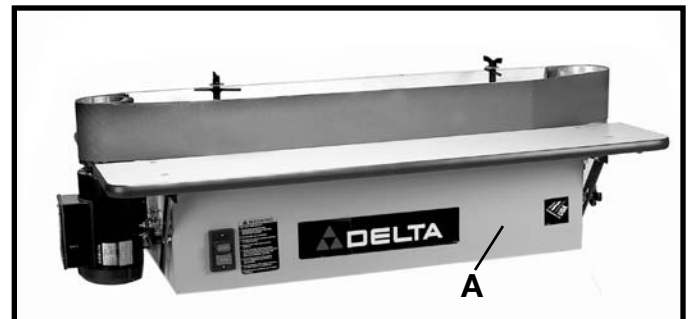

Fig. 2
Fig. 2, illustrates the basic sander (A) removed from the shipping container. Place the sander (A) on a supporting surface that will hold 375 lbs., such as two saw horses, which will allow safe and efficient assembly of the legs.